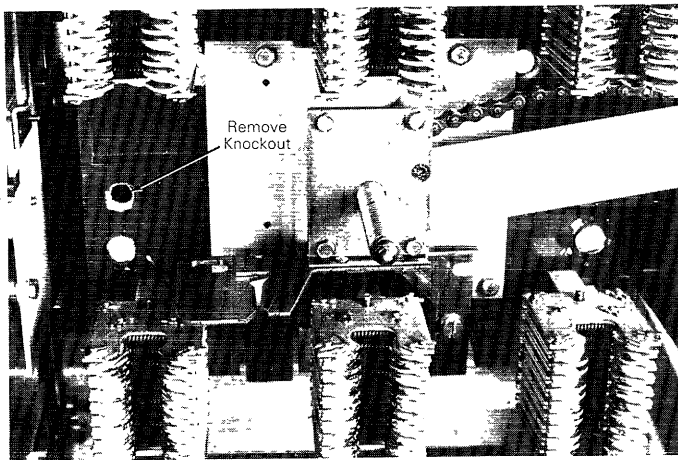

Figure 3. Knockout removed for installation of the interlock plunger.
1. Remove the knockout on the rear of the breaker, as shown in Figure 3. Be sure to clean the edges of the hole, so that the interlock plunger can move freely in and out.